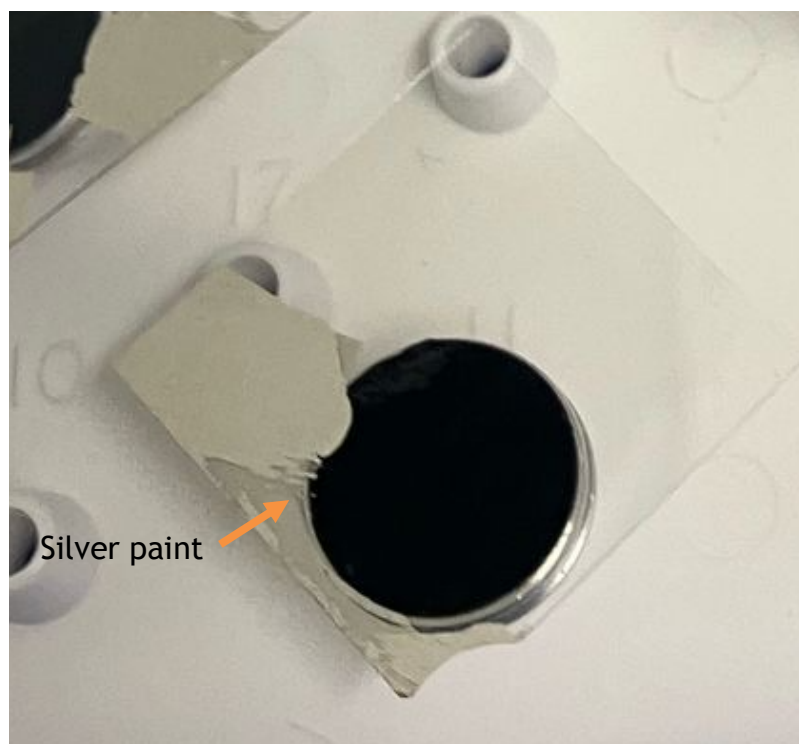

Figure 4. Paint stub and ITO with silver paint.
24. Paint part of the edge of the coverslip and stub with silver paint so there is a conductive path from the glass to the metal of the stub (Fig.4).